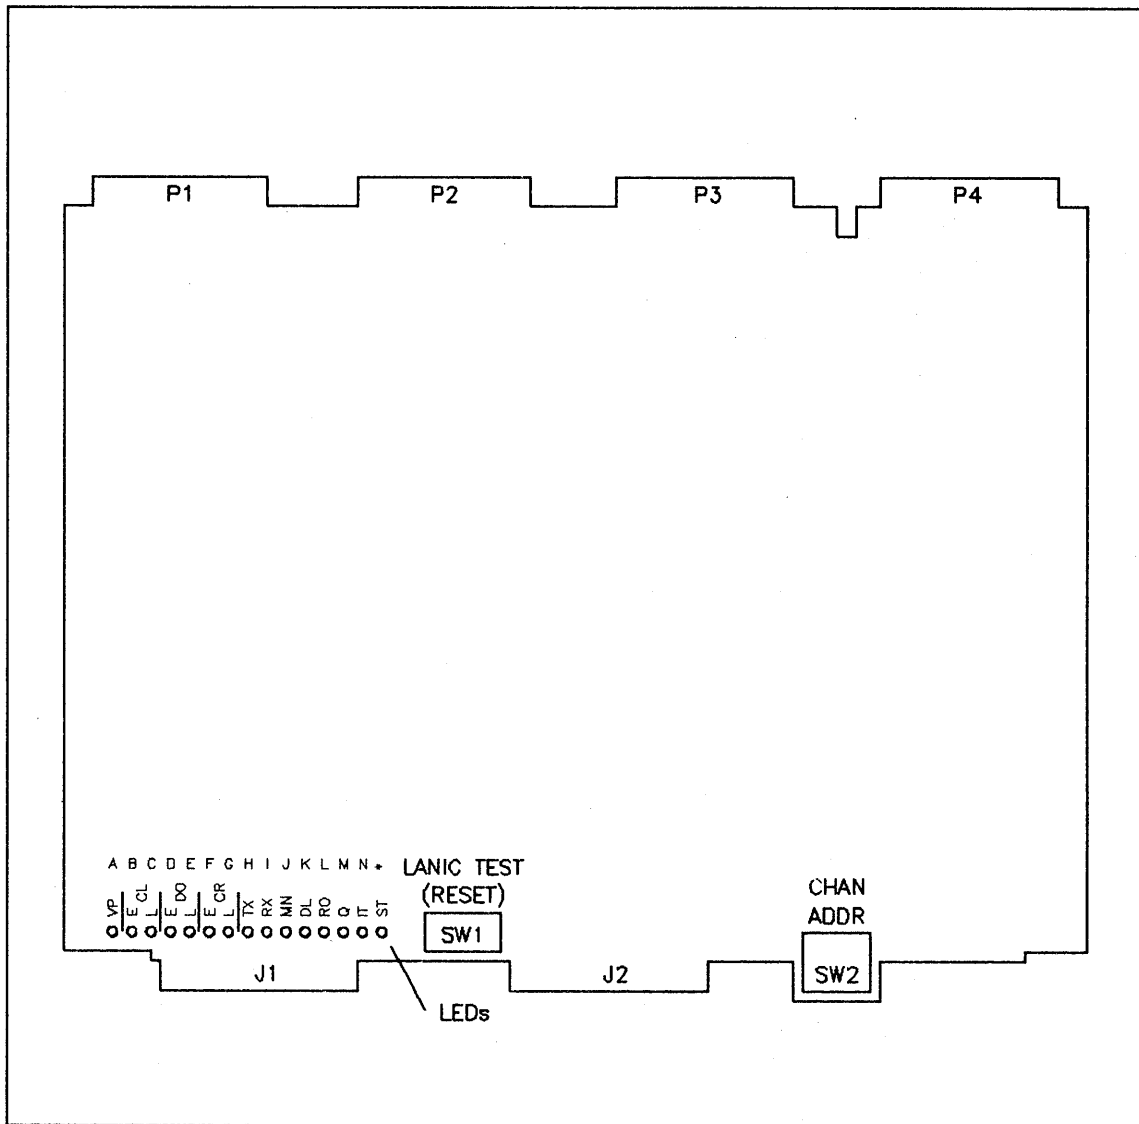

Figure 2-1. LANIC Switch and LED Locations
For the LANIC card, the channel address is set by a CHAN ADDR rotary switch, SW2, located on the front edge of the card. See figure 2-1 for the location of SW2. SW2 can be set to any value between 1 and 15, however, ensure that no GICs, ADCCs, or SIBs are set to the same channel number. While it is physically possible to set the address switch to values 1 to 15, you should exercise some caution in your choice of channel number. For instance, in all HP machines, it is assumed that the console has a DRT of 8. Therefore, choosing to make the LANIC channel address of 1 in a 4X, 5X, or in the first IMB of a 6X/7X machine will cause problems. Once you have set SW2 to a value, jot the value down. The formula used to calculate the DRT number from the hardware address is: $(\text{IMB\#} \times 128) + (\text{channel\#} \times 8) + \text{device \#}$.
2. A self-test on the card, will execute at power on. There are 15 LED's on the front edge of the LANIC card (see figure 2-1). The seven LED's on the top are used to indicate activity on the AUI cable. The eight LED's on the bottom are used by self-test.